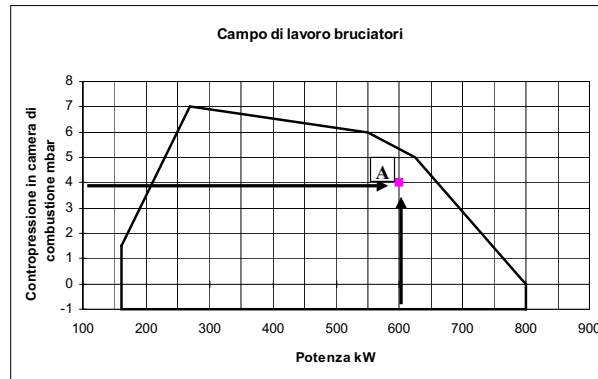

Fig. 1
In the “Performance curve” diagram (Fig. 1), draw a vertical line matching the furnace input value and an horizontal line matching the backpressure value. The burner is suitable if the intersection point A is inside the performance curve.
- two (2) gas flanges are required; they may be threaded or flanged depending on size;
**ATTENTION:** once the gas train is mounted according to the diagram on Fig. 1, the gas proving test must be performed, according to the procedure set by laws in force.